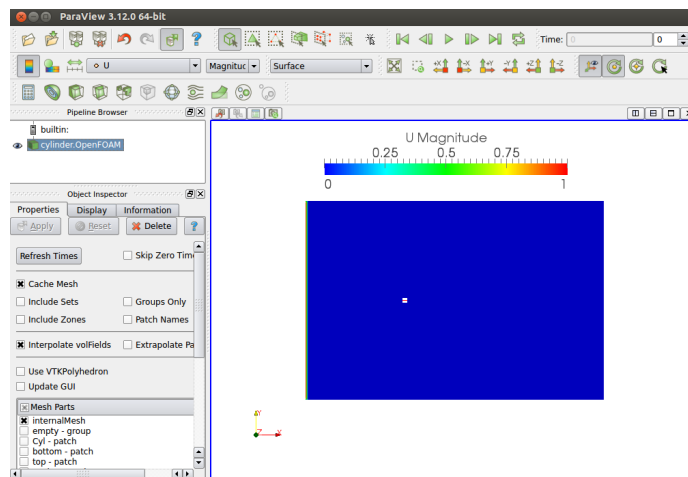
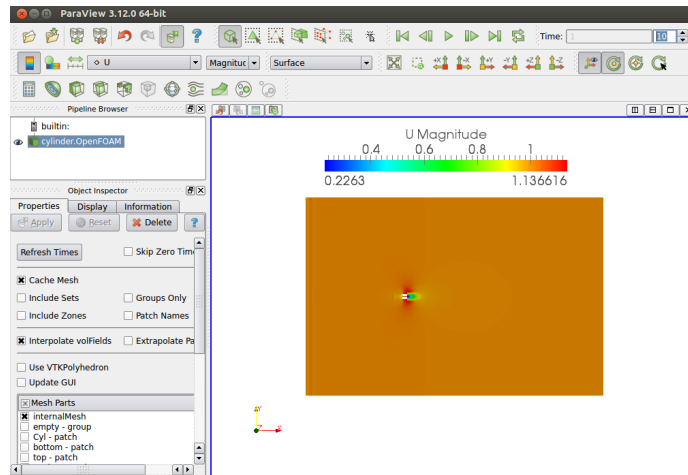

Figure 3.7: Initial velocity condition
Figure 3.8: Velocity at 1 sec
change from Solid Color to Velocity (U). You can now see the initial conditions for velocity, Fig 3.7. To view the animation on the right hand top of paraview click on the play button of VCR menu. You can see the change in velocity in the paraview window with the passage of time, Fig 3.8.